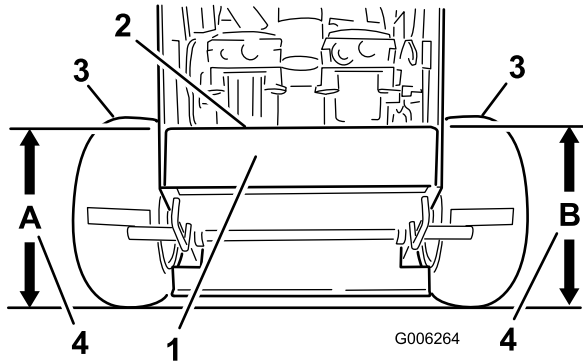

Figure 55
- Measure engine deck height at location **A** (Figure 55).
- Measure engine deck height at location **B** (Figure 55).